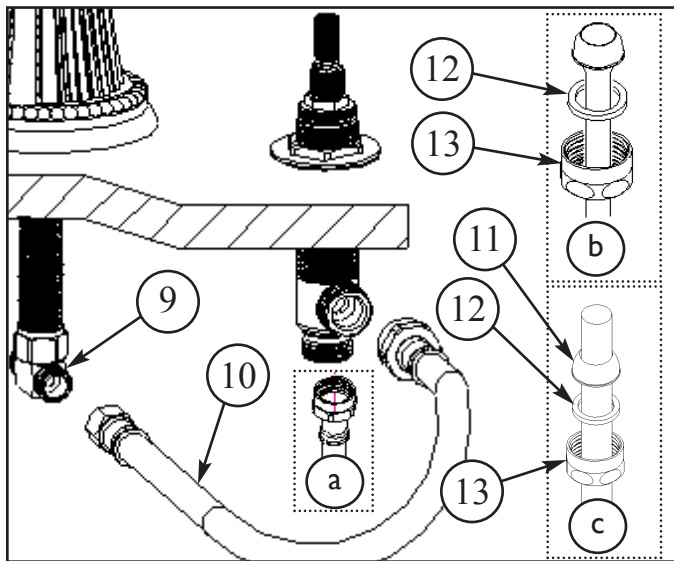
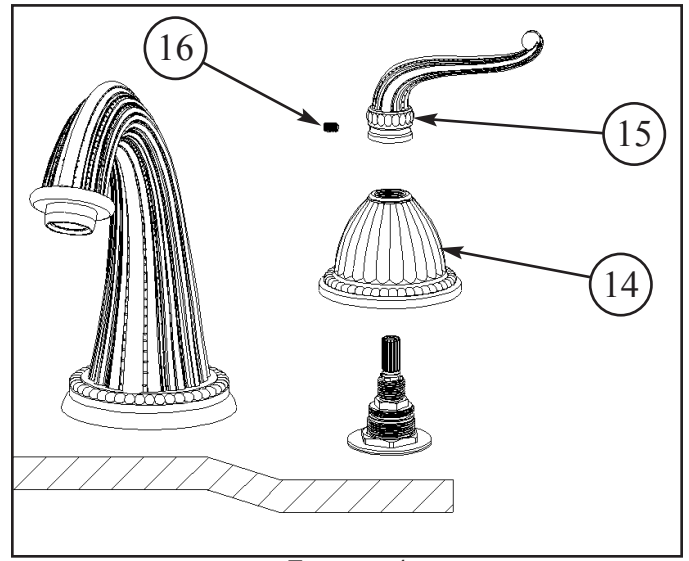

Figure 3
Figure 4
4. Connect large end of flexible HOSE (10) to side outlet of each valve BODY (7). Attach other end of HOSE (10) to either side of the TEE (9). (Hand-tighten and secure each connection with a wrench 1/4 turn.) See Figure 3.
5. Connect hot/cold water supply to appropriate 1/2" NPSM valve BODY (7), utilizing one of the three following types of risers. Supply risers not included. See Figure 3.
- a. 1/2" IPS flexible riser: discard rubber nosecone WASHER (11), friction WASHER (12) and coupling NUT (13).
- b. 3/8" or 1/2" OD bullnose riser: utilize friction WASHER (12) and coupling NUT (13).
- c. 1/2" copper riser: utilize rubber nosecone WASHER (11), friction WASHER (12) and coupling NUT (13).
6. Place ESCUTCHEON (14) and HANDLE (15) to cartridge. Secure HANDLE (15) into place with SETSCREW (16). Any adjustments for rotational alignment must be made to the valve BODY (7) - not to the cartridge. (Note: Allow minimum spacing between HANDLE (15) and ESCUTCHEON (14) to prevent damage to the surface finish.) See Figure 4.